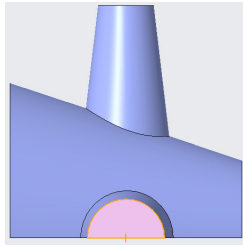

Figure 15-111 Sketch for the fill surface
7. Choose the **Project** tool from the **Sketching** group and select the smaller semicircular edge of the blend surface. Next, close the sketch by drawing a horizontal line between the two ends, as shown in Figure 15-111.